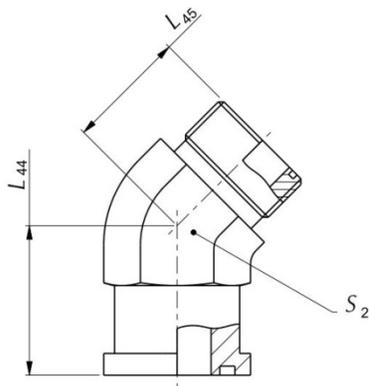

Figure 46A
**Figures 46A and 46B – Compact, short and medium 45° elbow